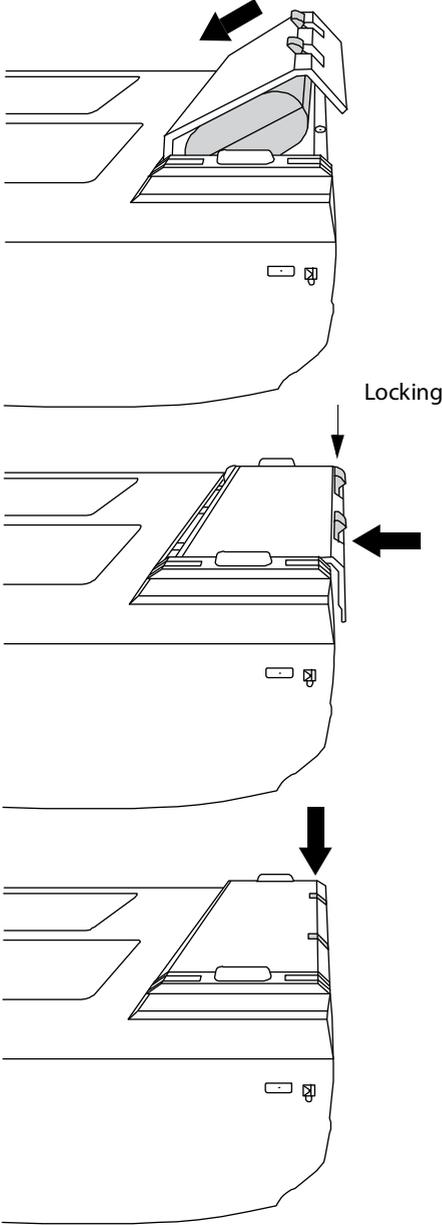

Figure 2-3 Install the battery
- 3 Place the battery into the battery compartment, at a slight angle. See Figure 2-3 on page 2-4.